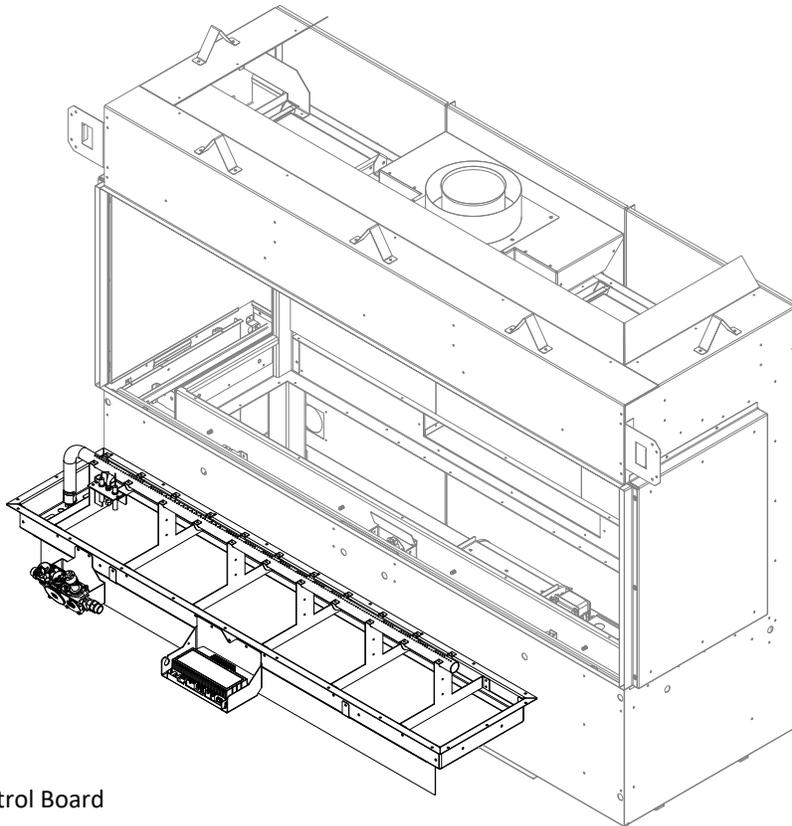

Figure 7.20 - Remove Control Board
6. Remove the (24) sheet metal screws securing the control board to the bottom of the firebox. Figure 7.20